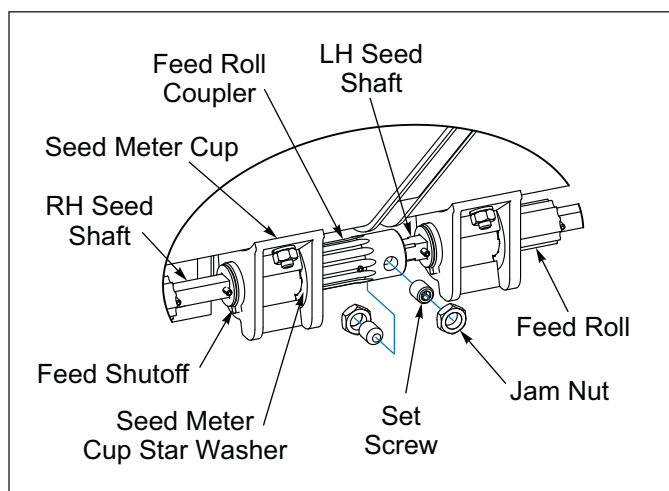

Figure 5-9: Seed Shaft Coupler
All Seed Meters should be closed. Seed Meter Feed Shutoff against Seed Meter Cup Star Washer in Seed Meter Cup. **See Figure 5-9.** If not, there are three adjustments to make as needed.
2. Seed Box Feed Roll Coupling which joins the left and right Seed Shafts changes Seed Meters on the left Seed Box in comparison with Seed Meters on the right Seed Box. To adjust Feed Roll Coupling, loosen Jam Nuts and Set Screws on Coupling RH Seed Shaft is treaded into Coupling. Turn RH Seed Shaft threading it in or out as needed to equalize Seed Meters. Re-tighten Set Screws against flat side on Seed Shaft, re-tighten Jam Nuts. **See Figure 5-9.**